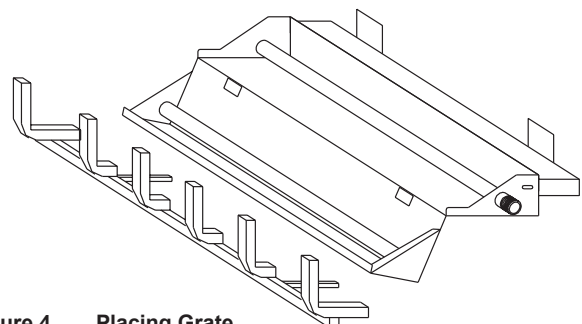

Figure 4 Placing Grate
- Install the grate by placing the inserts (attached to the grate) into the slots provided in the burner pan. Slide the inserts into the slots (Figure 4) and push the grate as far as possible to the locked position. GO 35 & GO 40 (not shown) grate installs in the same manner.
- For propane (LP) installations skip to "J for Propane Gas Installation".